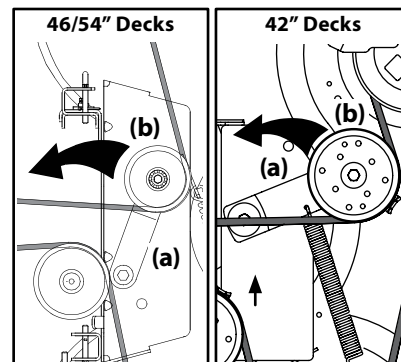

Figure 4-9
- b. Working from the middle of the tractor, pivot the idler bracket (a) and movable idler pulley (b) rearward away from the backside of the 'V' belt just far enough to lift the belt up and over the idler pulley (b). See Figure 4-9.